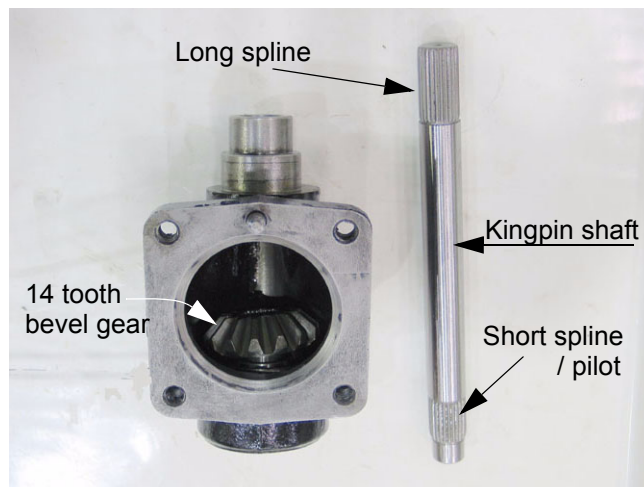

Figure 8.4
- 8.4. With the kingpin shaft removed, the 14 tooth bevel gear can be removed. See Figure 8.4.